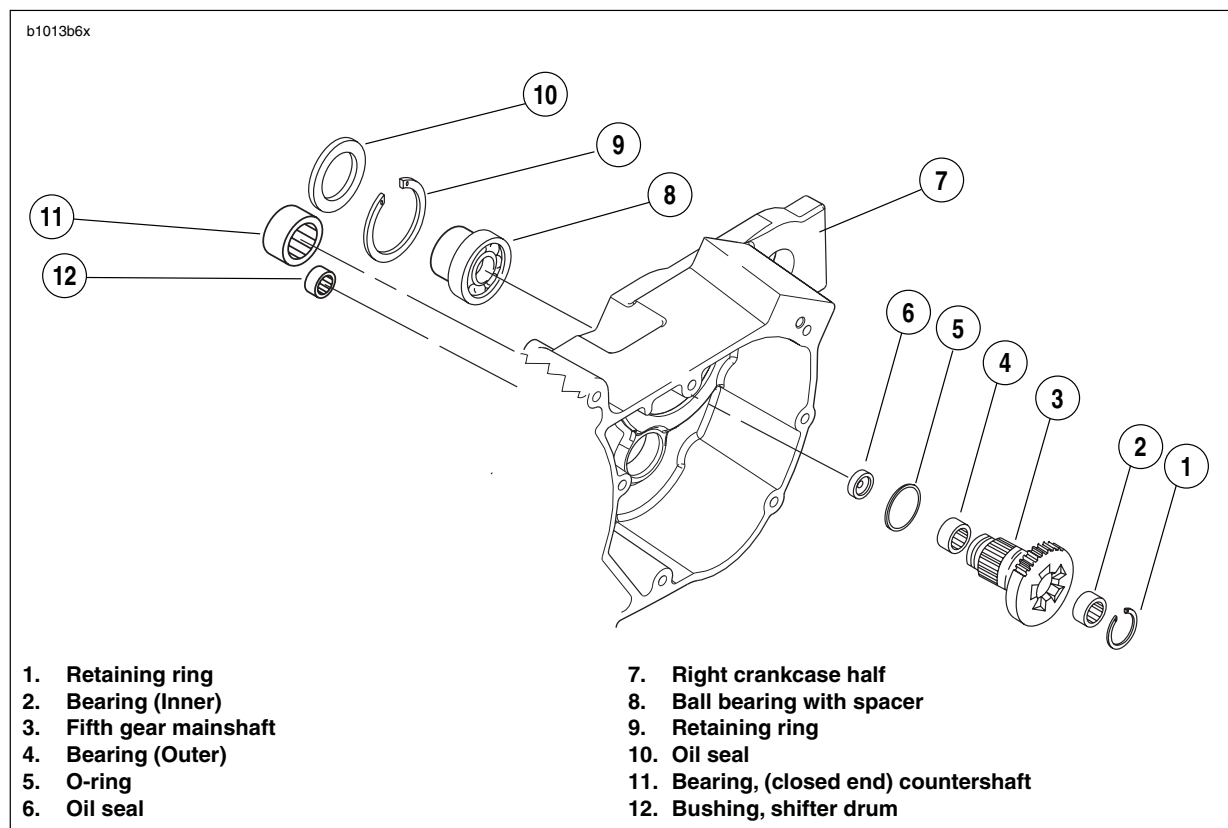

Figure 6-84. Transmission Assembly-Right Crankcase Half
2. See Figure 6-84. Install **new** o-ring (4) into groove in main drive gear (2). Lubricate o-ring with GENUINE HARLEY-DAVIDSON FORMULA+ TRANSMISSION AND PRIMARY CHAINCASE LUBRICANT.
See Figure 6-84. Make sure to install **new** o-ring (6) onto main drive gear before installing main drive gear into crank-case.
4. At outside of case, place INSTALLER CUP (Part No. HD-35316-12) (4), NICE BEARING (5), FLAT WASHER (6) and NUT (7) over end of bolt. Tighten nut until main drive gear bottoms against main drive gear bearing.
6. See Figure 6-84. Tap in **new** oil seal (6) at threaded end of main drive gear to a depth of 0.060-0.030 in. (1.524-0.762 mm).
1. See Figure 6-84. From inside transmission case use a suitable BEARING DRIVER/PULLER to remove countershaft bearing (11) from crankcase bore.
2. See Figure 6-84. From the outside of the case place the closed end needle bearing (11) open end first next to the bearing bore. Hold the driver squarely against the closed end of the bearing and tap the bearing into place. The bearing is properly positioned when it is driven flush or 0.030 in. (0.762 mm) below the outside surface of the case.
1. See Figure 6-84. Using SNAP-ON BUSHING DRIVER SET (Part No. A-157C) with a 1/2 inch adapter (Part No. A157-8), install **new** bushing (12).